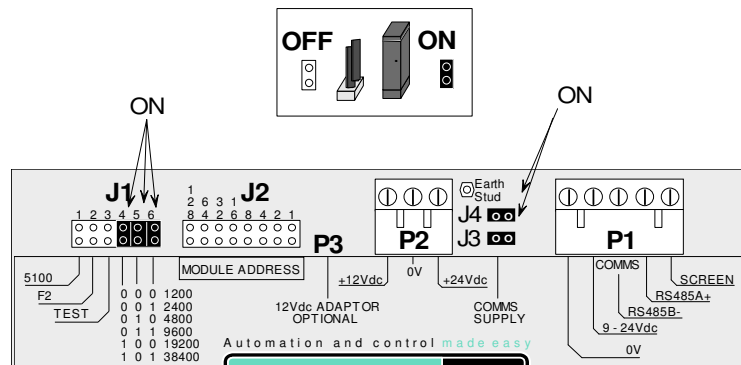

Figure 2 - Jumper settings.
1. Check that all jumpers are placed as per figure 2 below. (For more, refer to page 17.)